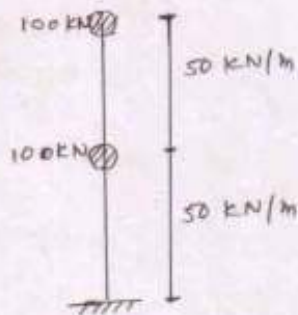

Fig: 5
- (b) For a two degree of freedom system shown in Fig. 5, obtain the natural frequencies and corresponding mode shapes. **07**